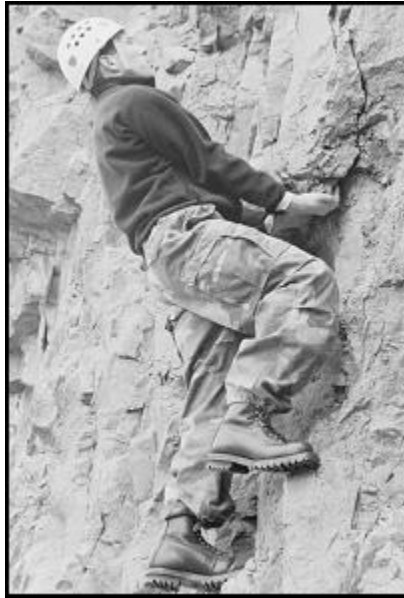

Figure 6-13. Undercling.
(3) ***Undercling.*** An "undercling" is a classic example of handholds and footholds working in opposition (Figure 6-13). It is commonly used in places where the rock projects outward, forming a bulge or small overhang. Underclings can be used in the tops of buckets, also. The hands are placed "palms-up" underneath the bulge, applying an upward pull. Increasing this upward pull creates a counterforce, or body tension, which applies more weight and friction to the footholds. The arms and legs should be kept as straight as possible to reduce fatigue. The climber can often lean back slightly in the undercling position, enabling him to see above the overhang better and search for the next hold.